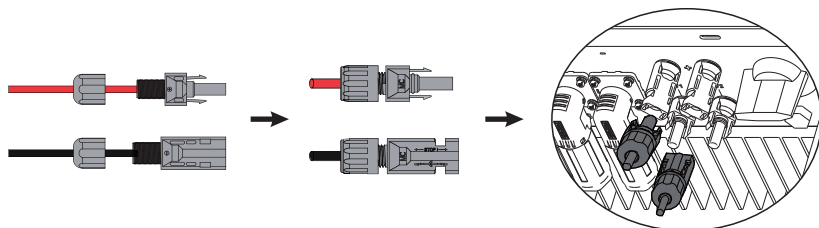

**Figure 4.1-2 PV cables to PV connectors**
**Step 2.** Connect PV cables to PV connectors. See Figure 4.1-2.